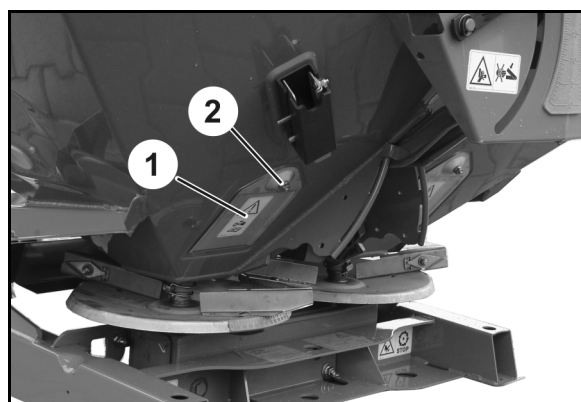

Fig. 85
The **ZA-X** is equipped with 2 emptying flaps (Fig. 85/1).
2. Unscrew the nuts (Fig. 85/2).